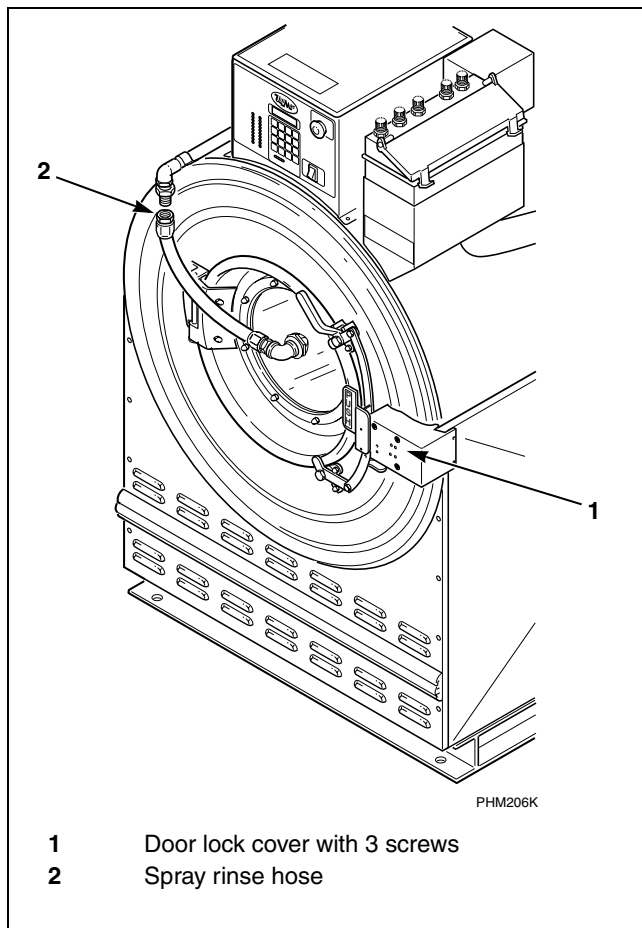

Figure 27
- Remove the three screws and the door lock cover from the front of machine. Refer to *Figure 27*.
- Disconnect the spray rinse hose from the spray tube assembly. Refer to *Figure 27*.